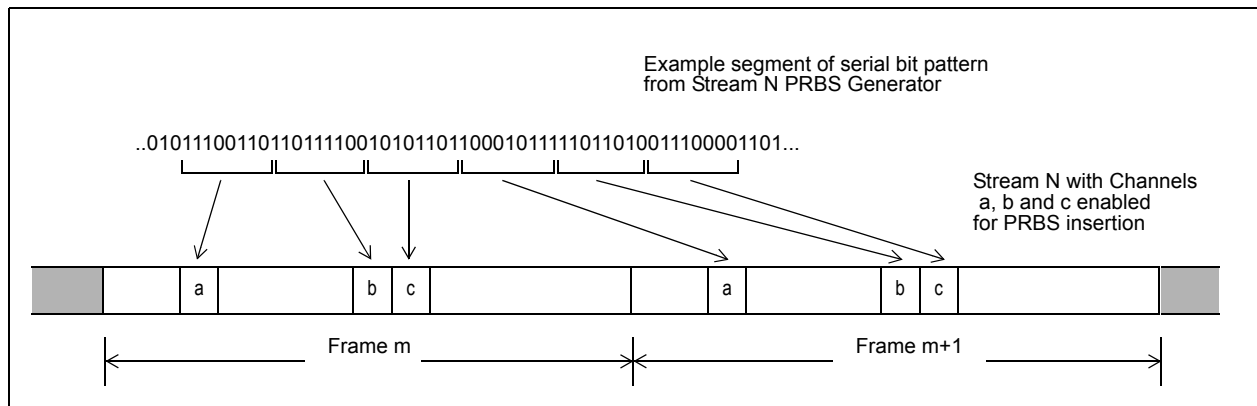

Figure 8 - Example PRBS Timeslot Insertion
The PRBS bit pattern is sequentially loaded into the output timeslots. An example is shown in Figure 8.
2. The arrival order of timeslots at the PRBS detector must be the same as the order in which timeslots were transmitted by the PRBS generator. For example, in Figure 8 above, the timeslot order a, b, c must be maintained through the external path from source TDM output stream to destination TDM input stream.